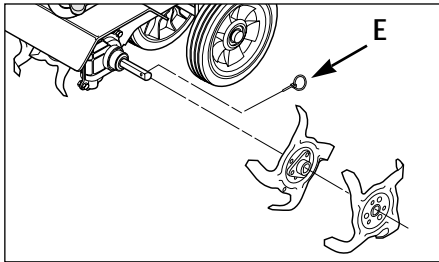

Figure 9: Ring lock pin and tines.
3. Flip open and remove the two ring lock pins (E, Figures 9 and 10) on each tine shaft. Keep left and right-side tines separate and marked for easier reinstallation.